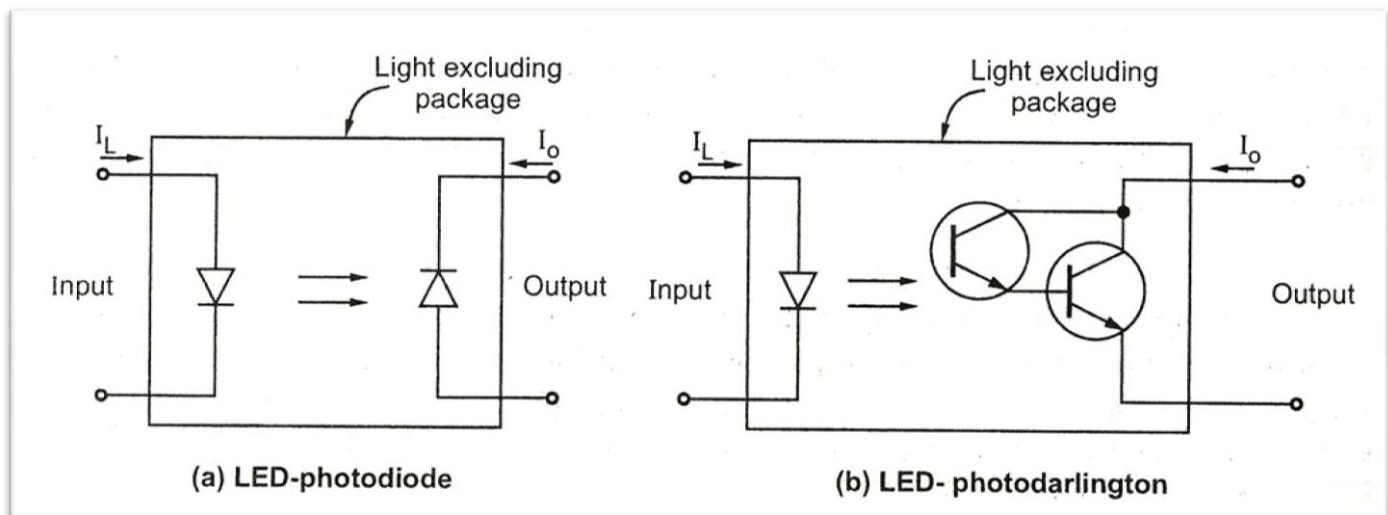

Fig.5.4.3. Types of Optoisolator circuits
3. In both the circuits the input current which is the forward current of LED results in the emission of light by LED. This light is detected by photodiode and Photodarlington to produce the output current. These two optocouplers are shown in the fig.5.4.3 (a) and fig. 5.4.3(b)